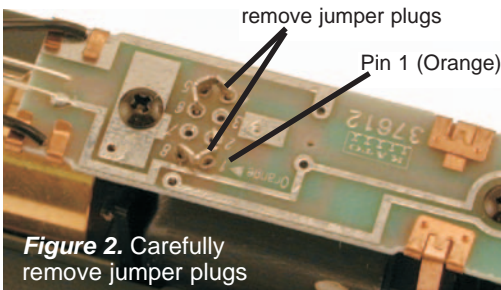

Figure 2. Carefully remove jumper plugs
2. Remove the two metal jumper plugs in the locomotive's DCC-ready socket. (*Figure 2*) The jumper plugs allow the locomotive to operate on a standard DC track or in analog mode on a DCC track.